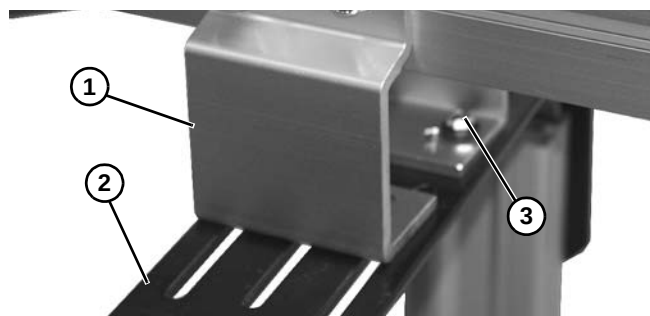

Figure 17
1. Fasten brackets (**Figure 17, item 1**) to support stand (**Figure 17, item 2**) with mounting screws, washers, and nuts (**Figure 17, item 3**).